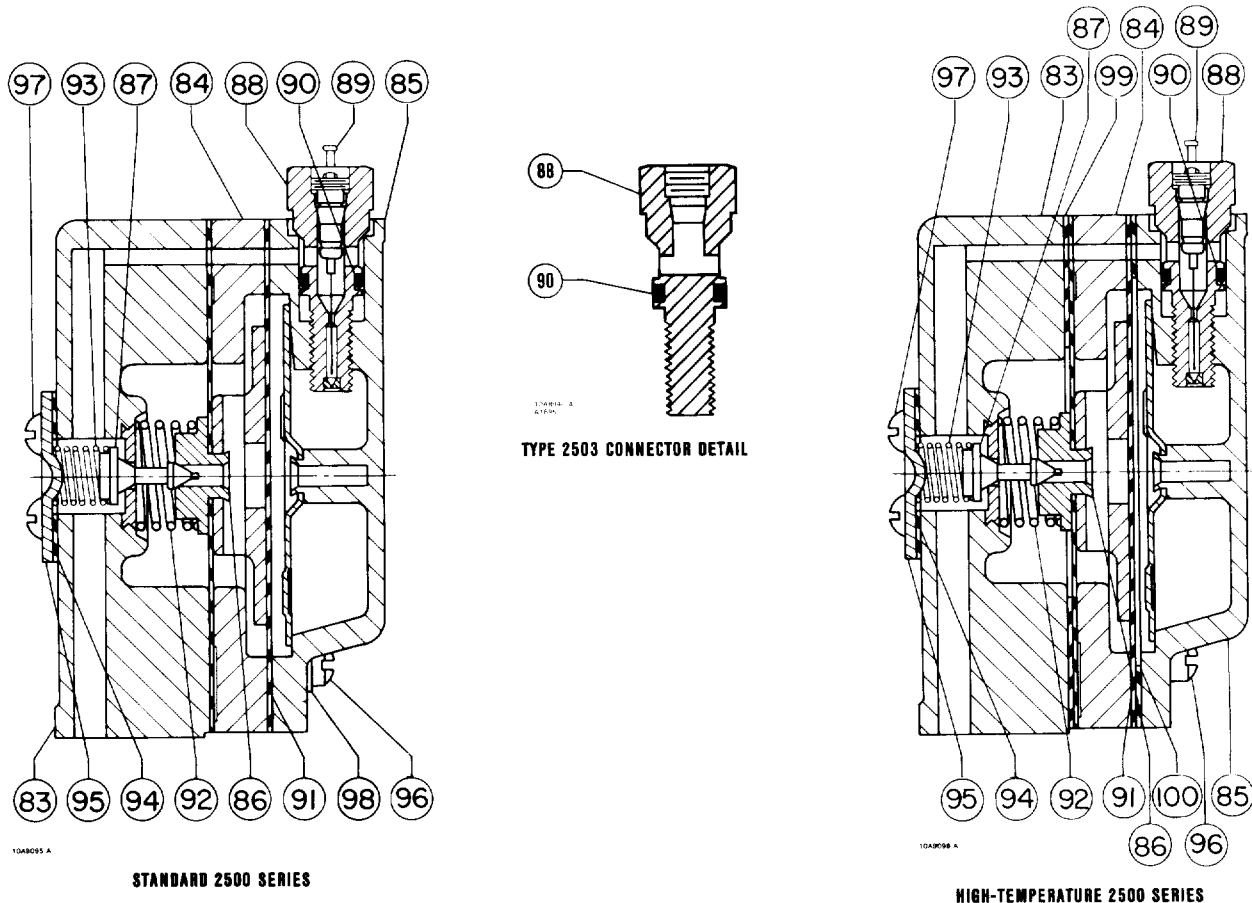

Figure 19. Relay Constructions
1. On a controller or transmitter with indicator assembly, loosen the two lower screws (key 96, figure 19) of the relay case and slide out the indicator base plate (key 53, figure 17).
Disassembly can be accomplished in the following steps. Key numbers are shown in figure 19.